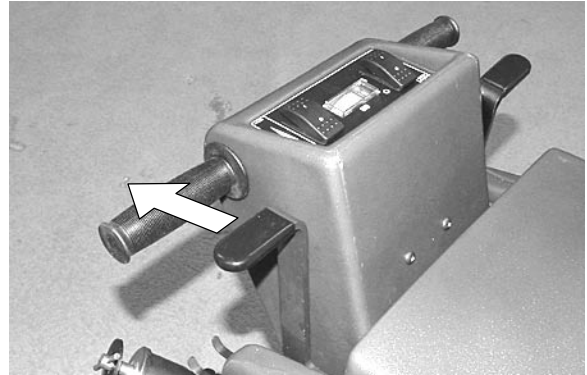

FIG. 7
2. Pull solution flow lever completely back to shut off solution flow (Figure 7).